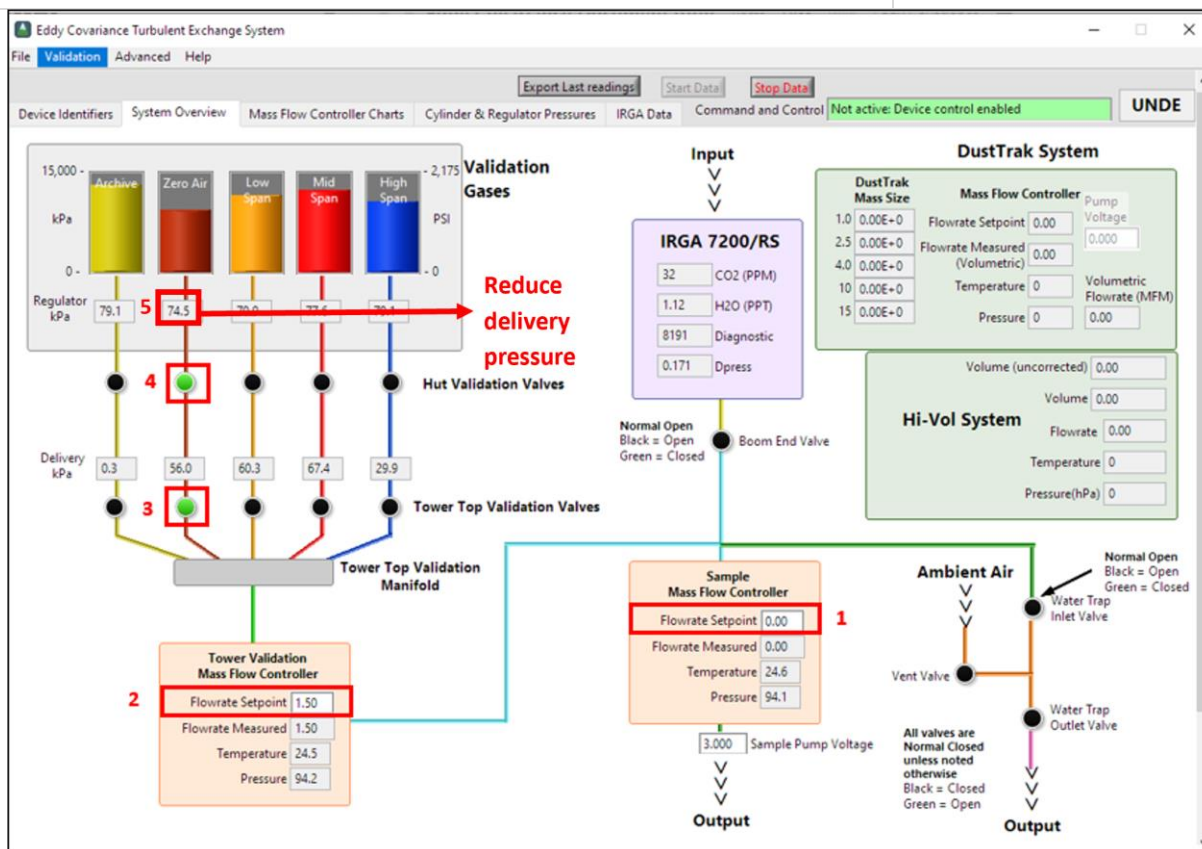

Figure 206. To Set Delivery Pressure for Leak Checking: Follow the 1-5 Numbering in Red.
STEP 4 | To set the delivery pressure for leak checking, follow the 1-5 numbering in **Figure 206**.